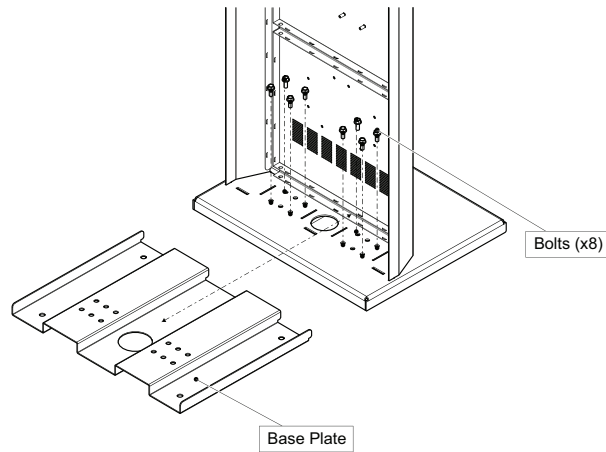

Figure 8 Kiosk Base Plate with bolts
5. Remove the remaining 8 bolts that attach the Kiosk to the base plate, as shown in Figure 8.